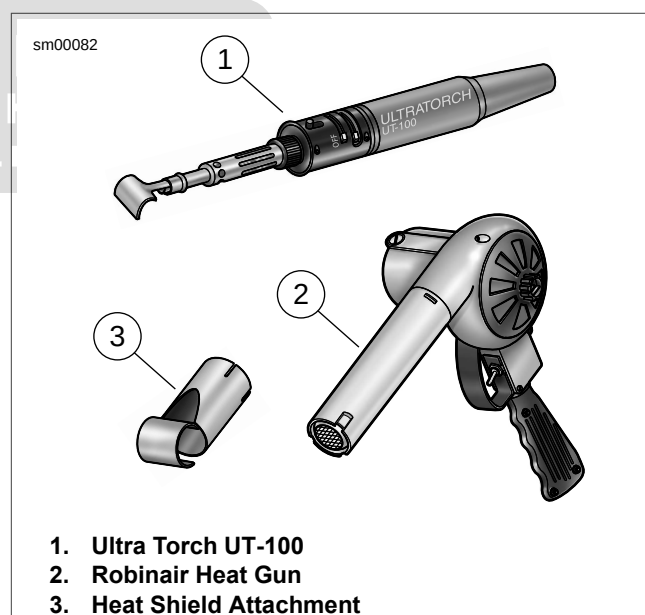

Figure 7-48. Radiant Heating Devices
- See Figure 7-48. Use ULTRA TORCH UT-100 (Part No. HD-39969) or ROBINAIR HEAT GUN (Part No. HD-25070) with HEAT SHIELD ATTACHMENT (Part No. HD-41183) or equivalent. Uniformly heat the heat shrink tubing to insulate and seal the soldered connections. Apply heat just until the meltable sealant exudes out both ends of tubing and assumes a smooth cylindrical appearance.